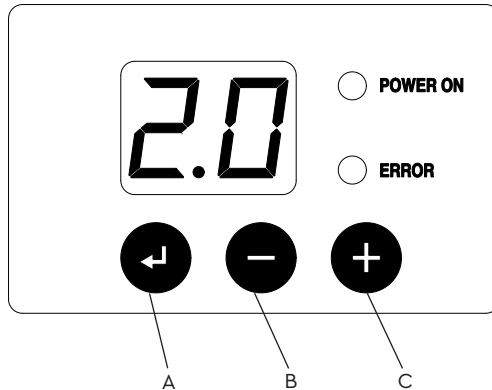

Fig. 19
6.18 **Setting of SPU Mini** see Fig. 19